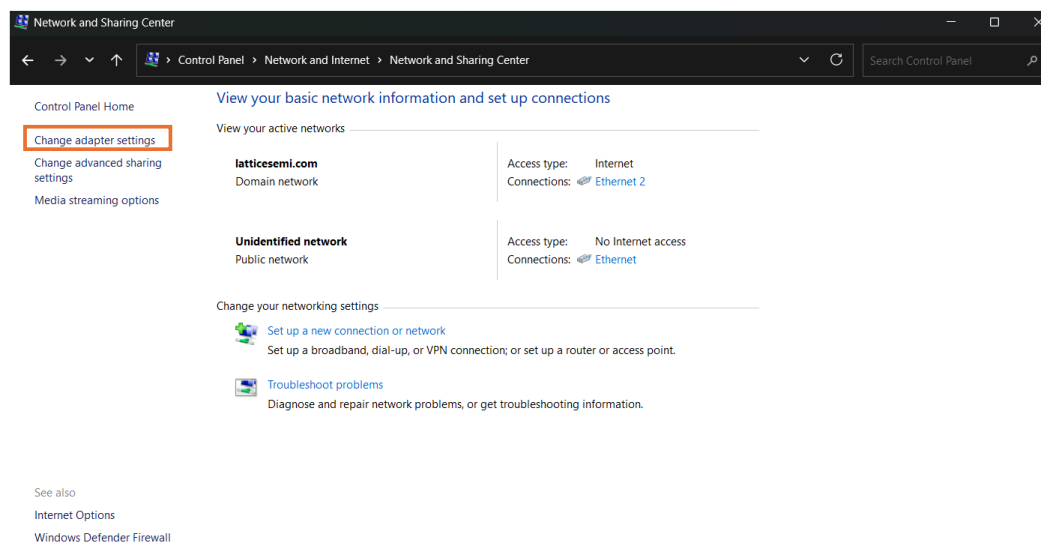

Figure 5.21. Network and Sharing Center Page
- Click **Change adapter settings** on the right side as shown in Figure 5.21.
4. Click **Change adapter settings** on the right side as shown in Figure 5.21.